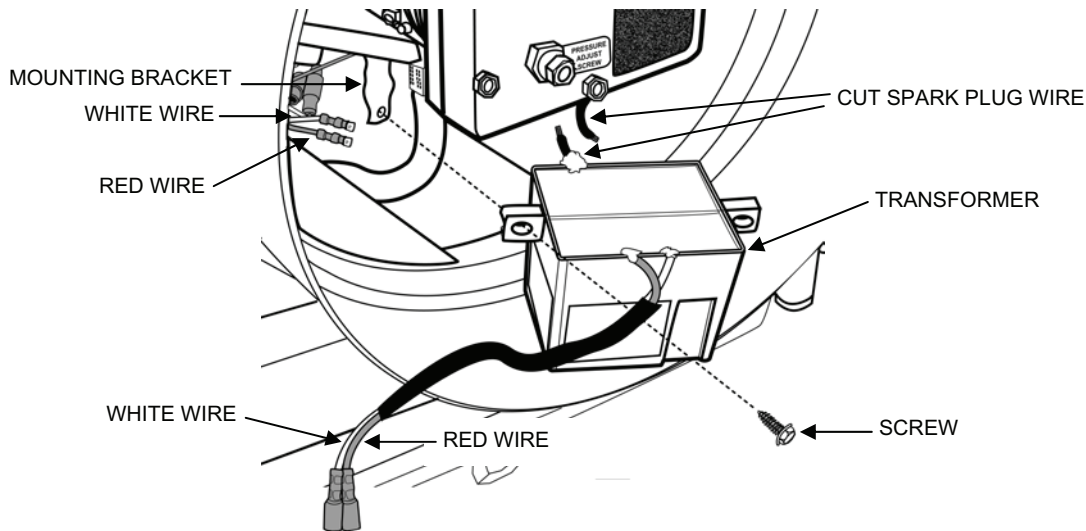

Figure 15. Transformer Replacement.
- d. Remove the two screws that secure the transformer to its mounting bracket inside the inlet end of the heater shell and gently pull the transformer out as far as the wires will reach. (If the wires are bound with a plastic tie-wrap, it may be necessary to clip the tie-wrap.) (See Figure 15)